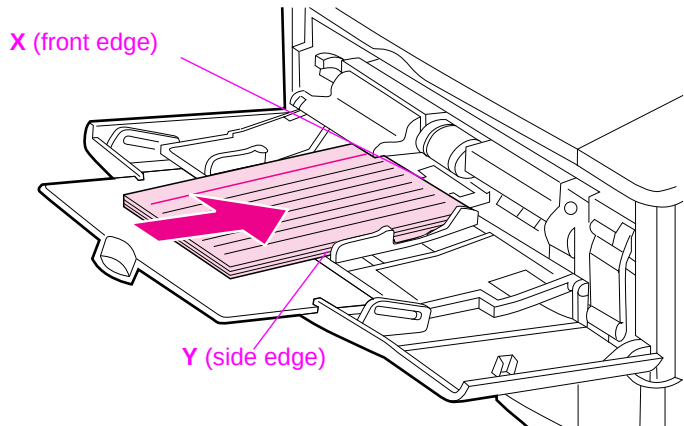

Figure 15 **Printing Custom-Size Paper**
- 3 From the Printing Menu, set the X dimension (the front edge of the paper) as shown in Figure 15. X can be 3 to 8.5 inches (76 to 216 mm).
- 4 Set the Y dimension (the side edge of the paper) as shown in Figure 15. Y can be 5 to 14 inches (127 to 356 mm).